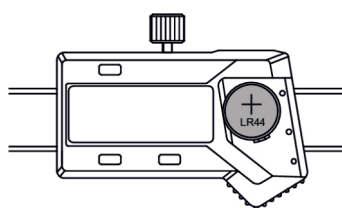

Fig. 2
- » Insert an SR44 or LR44 battery with the positive side (+) facing outward (Fig. 2).